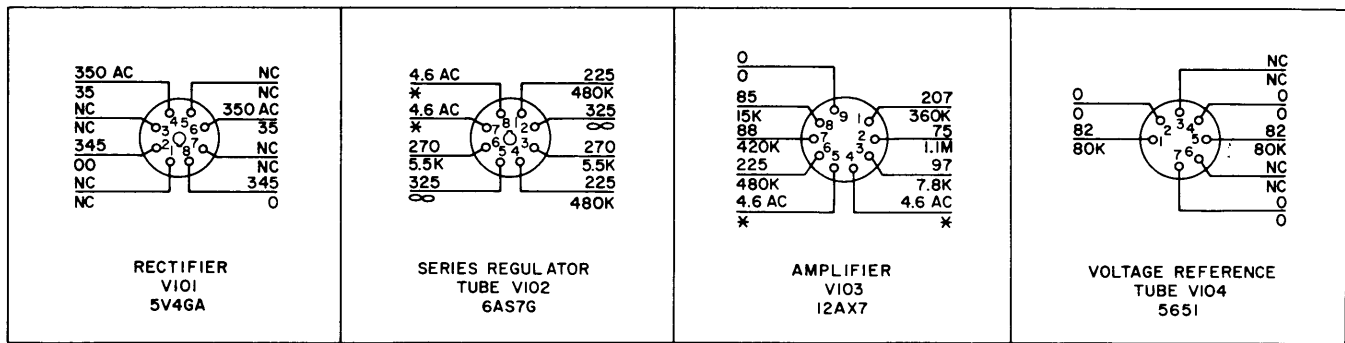

Figure 5-2. Voltage and Resistance Measurements, Model AP-123
- b. Voltage and resistance measurements, model PS (figure 5-2).